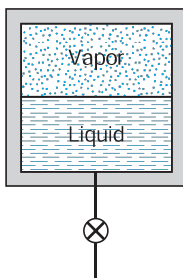

FIGURE P6.124
- 6.124** A 750-L rigid tank, shown in Fig. P6.124, initially contains water at 250°C , which is 50% liquid and 50% vapor by volume. A valve at the bottom of the tank is opened, and liquid is slowly withdrawn. Heat transfer takes place such that the temperature remains constant. Find the amount of heat transfer required to reach the state where half of the initial mass is withdrawn.